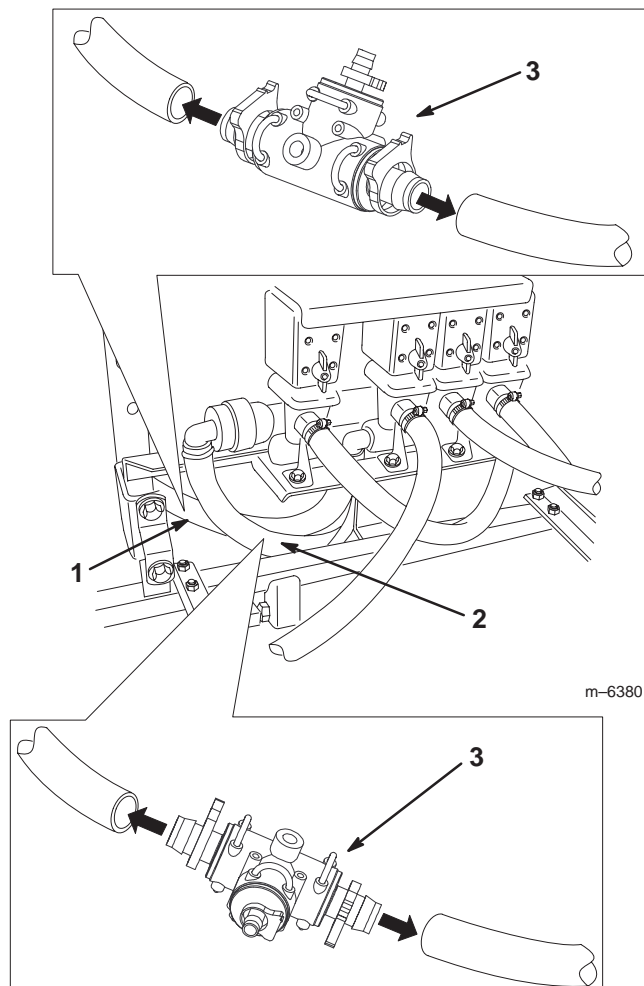

Figure 11
9. Cut the by-pass hose half way between the boom valves and the tank (Fig. 11).
10. Using liquid soap on the barbs, insert an S53 tee fitting assembly into the break and secure it using 2 large, plastic hose clamps (Fig. 11).
11. Cut the agitation supply hose in half (Fig. 11).
12. Using liquid soap on the barbs, insert an S53 tee fitting assembly into the break and secure it using 2 large, plastic hose clamps (Fig. 11).